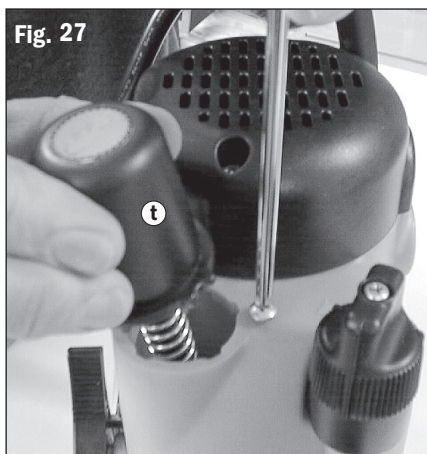

Fig. 27
2. Loosen the small screw next to the Plunge Spring Cap (t) a few turns. Twist the cap slightly anti-clockwise to remove it. Fig. 27. Note: hold the cap firmly while releasing tension from the spring.